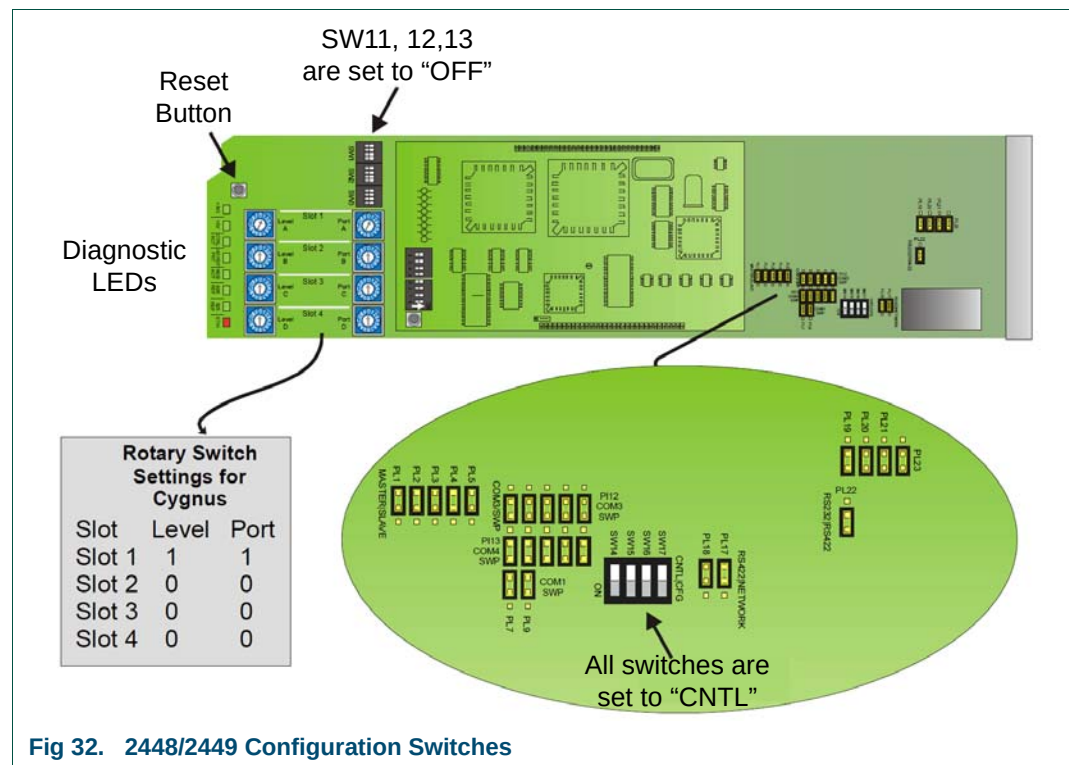

Fig 32. 2448/2449 Configuration Switches
- 8 rotary HEX switches NOT SUPPORTED WITH CYGNUS. But they must be left in a default mode (see Figure 32).
In Figure 32 the jumpers are shown in Master mode.
Figure 32 shows the jumpers set for RS422 mode.